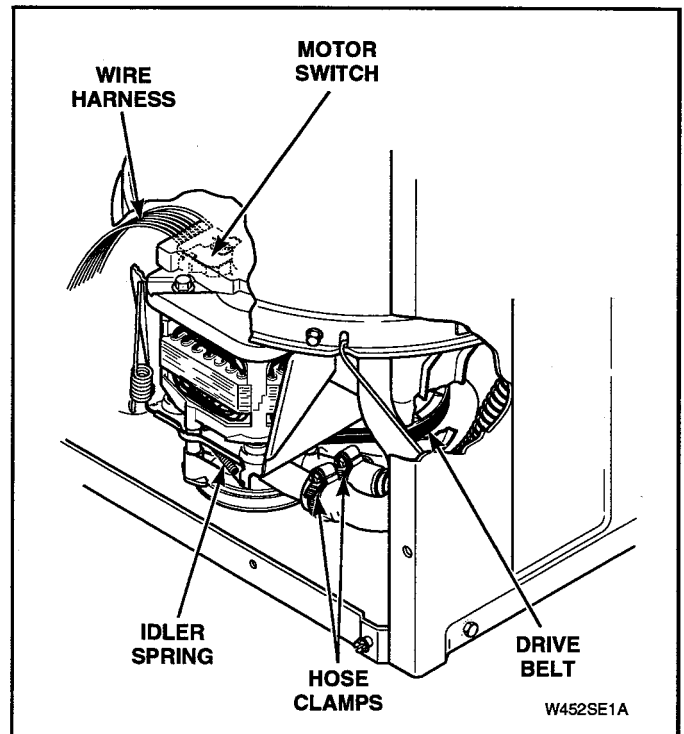

Figure 5-20
- d. Loosen hose clamps and remove hoses from pump assembly. See Figure 5-20.
- e. Unhook idler spring from clip on front of motor mounting bracket. See Figure 5-20.
- f. Reach in and around right side of motor and run belt off right side of large drive pulley. See Figure 5-20.
- e. Unhook idler spring from idler lever. See Figure 5-20.